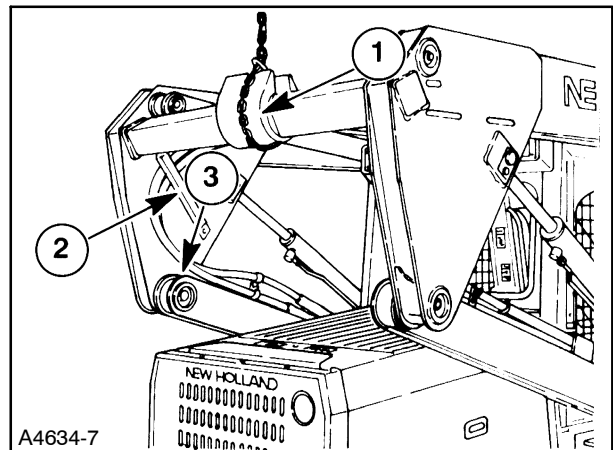

Figure 7-130
3. Position a jack stand or suitable support under the boom at the front, as shown at 1. The boom must be supported 1320.8 mm (52") to 1371.6 mm (54") off the ground at 1. Support the rear of the boom at 1, Figure 7-130, with a hoist or lifting device. This will position the boom for the rear lower link pivot pin removal and installation of the gussets.